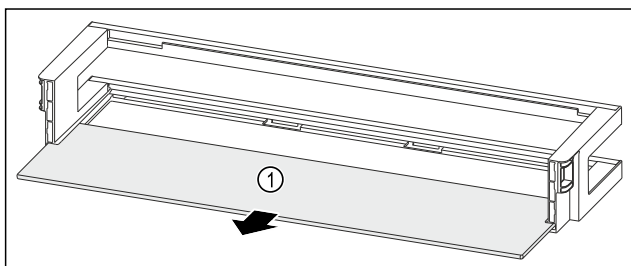

Fig. 158 Door rack with shelf
- ▶ Remove the shelf Fig. 158 (1).